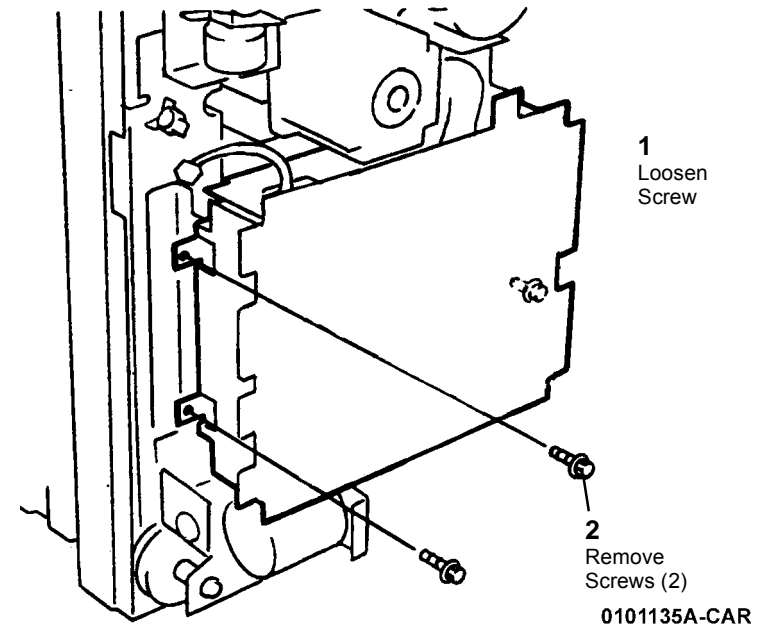

Figure 2 Removing Screws on PWB Chassis
3. Remove the screws on PWB Chassis (Figure 2).